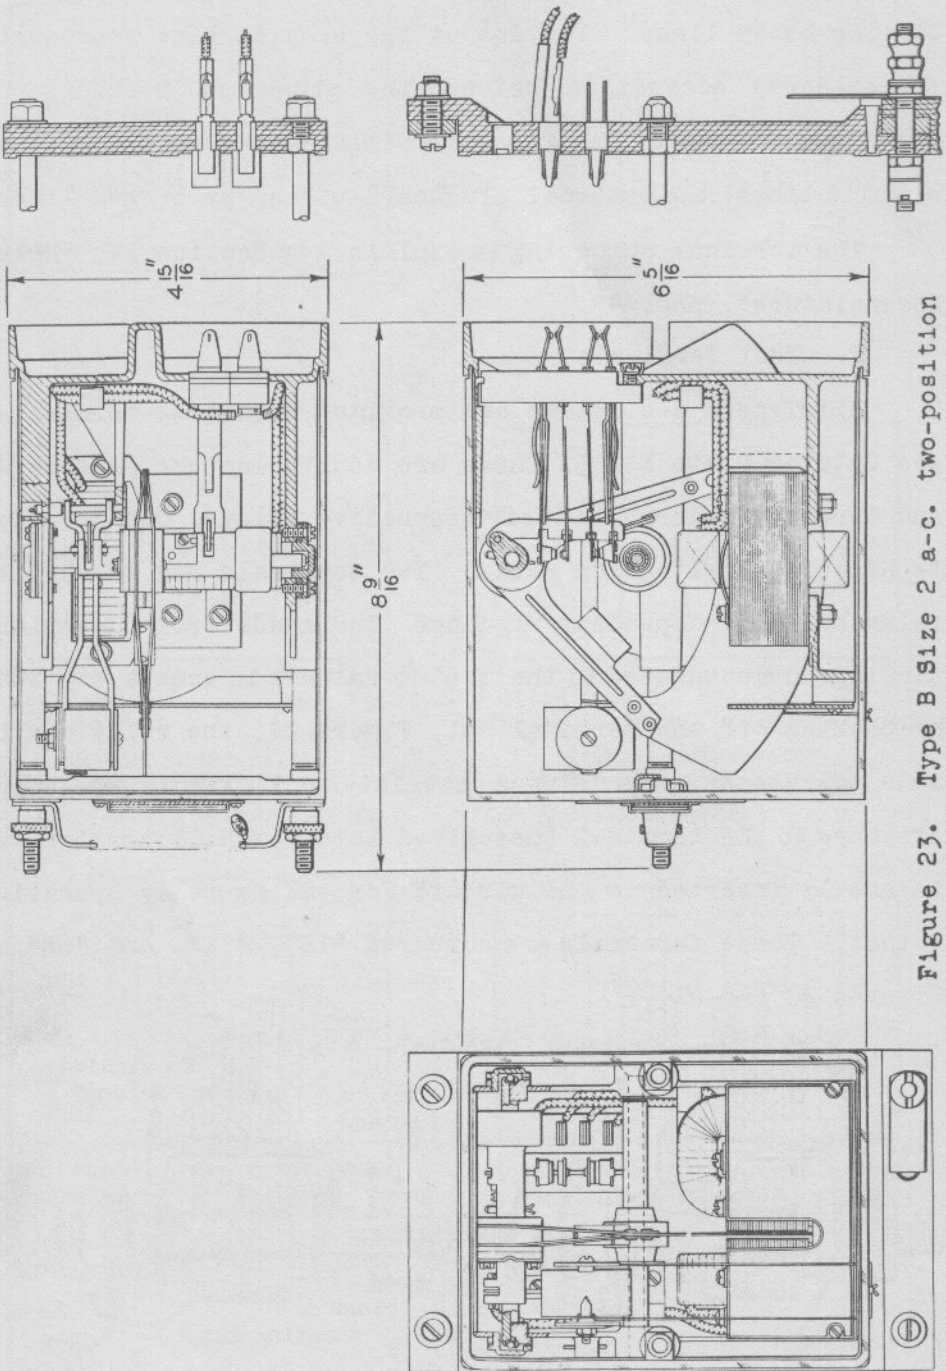

Figure 23. Type B Size 2 a-c. two-position vane relay
- (a) Two-position relay for line or track on any commercial frequency; two elements, local voltage 55 or 110, line voltage as specified, Figure 23, and Catalog Plate E3301.